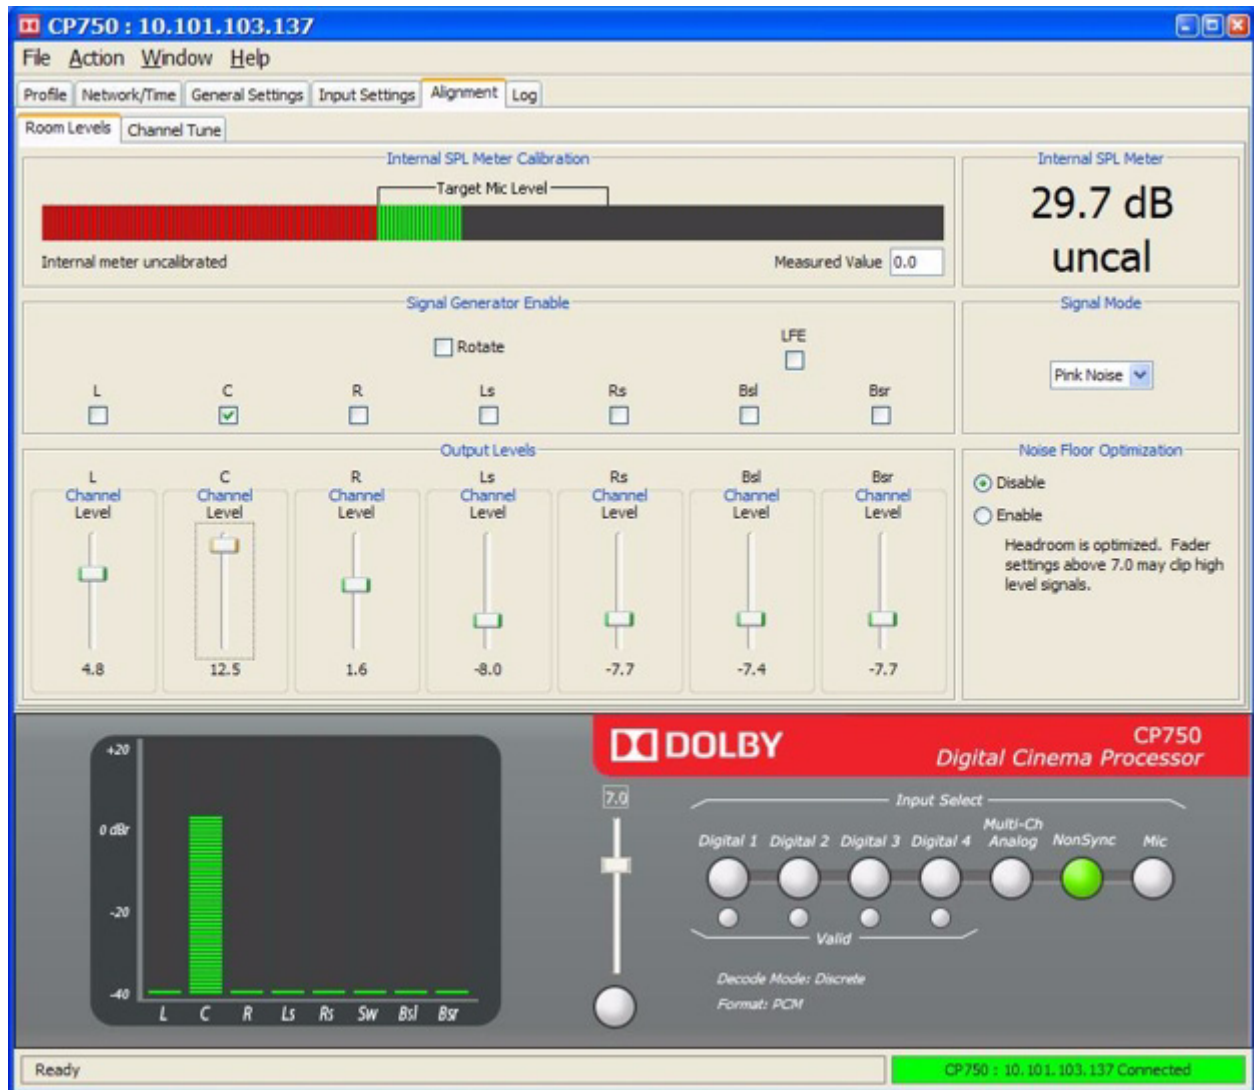

Figure 6-2 Alignment Tab Showing Room Levels
Figure 6-2 shows an example of the tab before the SPL is calibrated.
3. Check the microphone level to be sure it appears in the target range as shown in Figure 6-2.